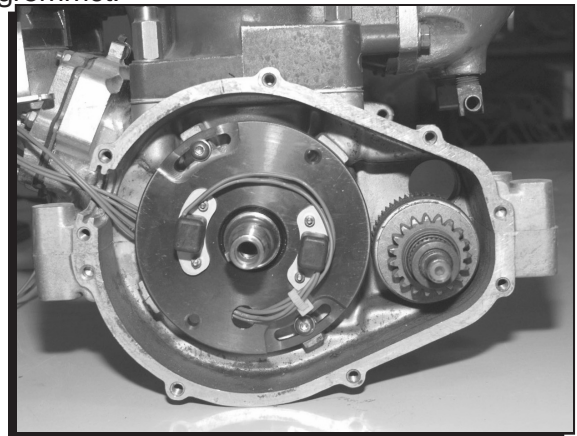

Figure 3 Mounting the Trigger Plate Assembly.
1. Assemble the trigger plate and pick-up assembly as shown in Figure 2. Place the trigger plate assembly on the engine bosses (Figure 3). Screw the supplied bolts and compression washers into the case and lightly tighten to hold the trigger plate in the center of the case's mounting pads.